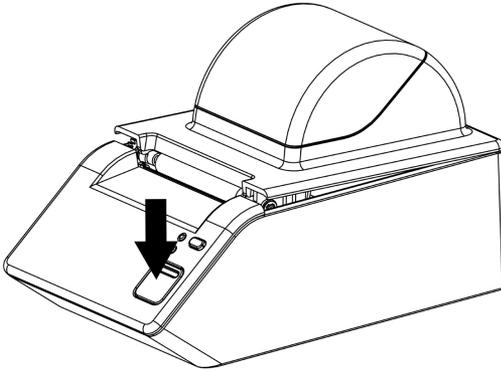

Figure 2.4.1
1. Press down the cover open button to open the top cover to the position shown in figure 2.4.1.